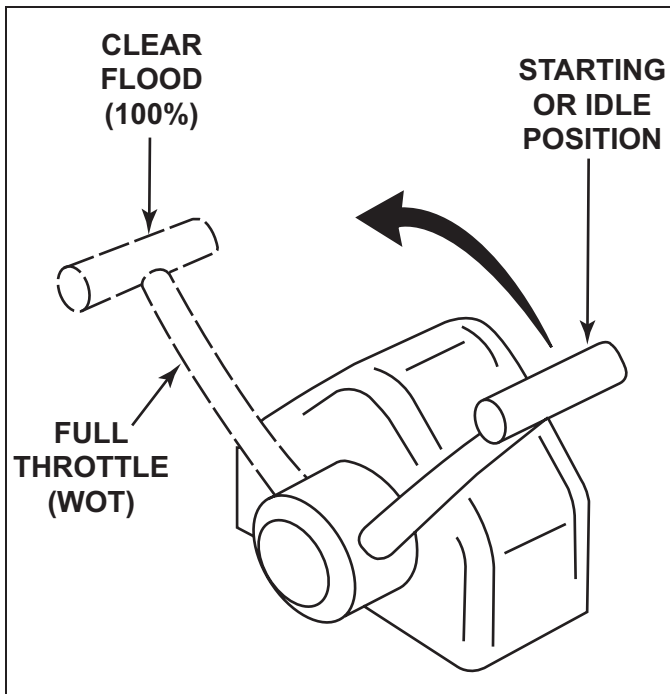

Figure 5-3 Throttle Position Setting
5. Do not pump or open the throttle when starting the engine (Figure 5-3). The ECM will automatically regulate the fuel and control desired idle speed.
7. **In the event the engine becomes flooded,** move the throttle lever to a 100% open position (Figure 5-3). At this throttle position, the ECM will command the injectors to deliver no fuel during engine cranking. When the engine starts, return the throttle lever back to the idle position.